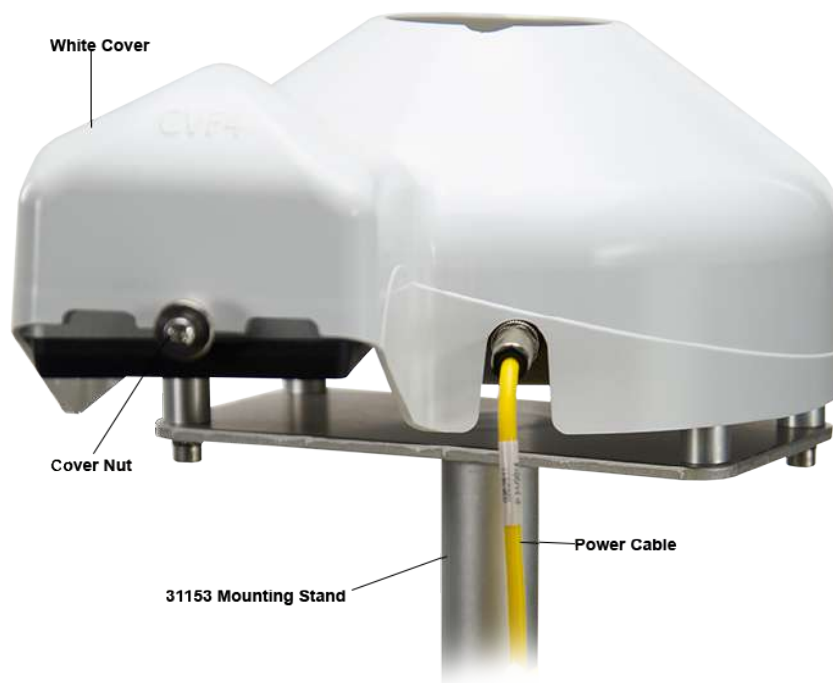

FIGURE C-8. CVF4 Mounted to 31153 Stand (pyranometer not shown)
9. Fit the white cover onto the CVF4 and secure it with the cover nuts (see FIGURE C-8).